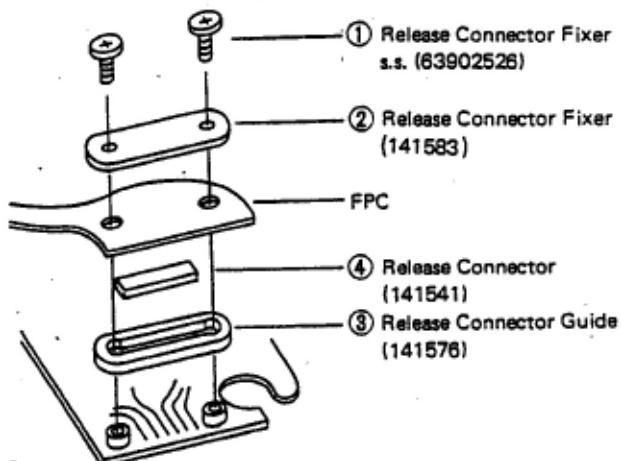

Fig. 9
d) Remove the respective parts ① ~ ④ shown in (fig. 9) in numerical order.